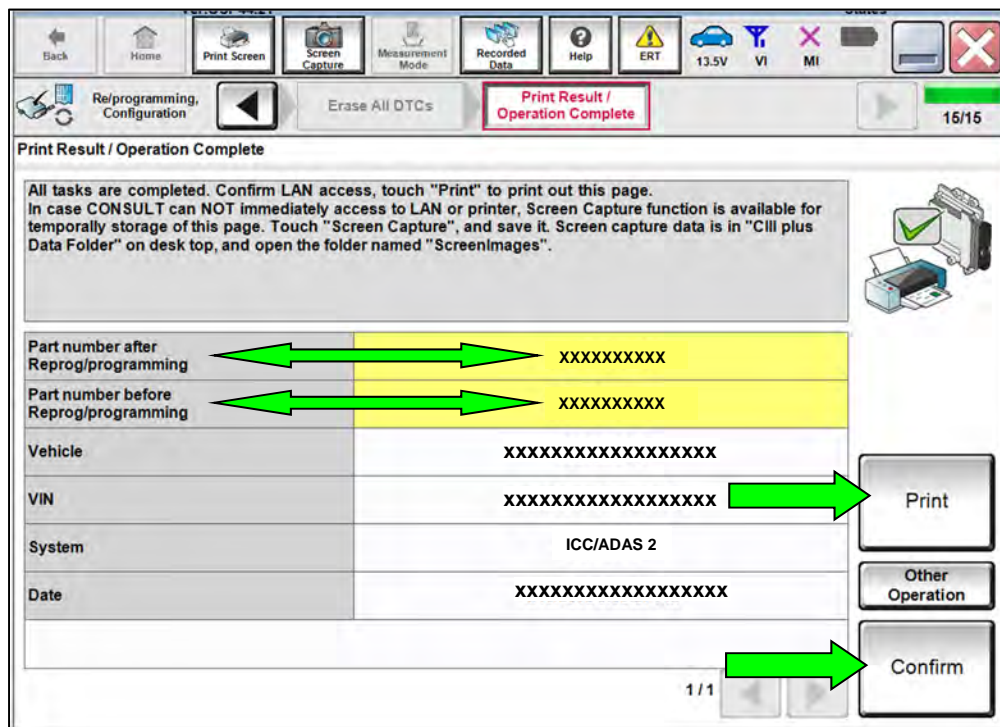

Figure 20
HINT: When the entire reprogramming process is complete, the screen in Figure 20 will display.
27. Print a copy of the screen below (Figure 20) and attach it to the repair order for warranty documentation.